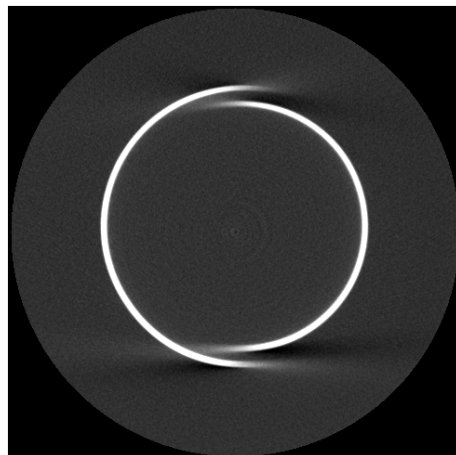

Figure 6-20
5. In case the arc is not correct (see example in Figure 6-20), it will be necessary to modify the lateral offset as described in the paragraph 9.3.2.